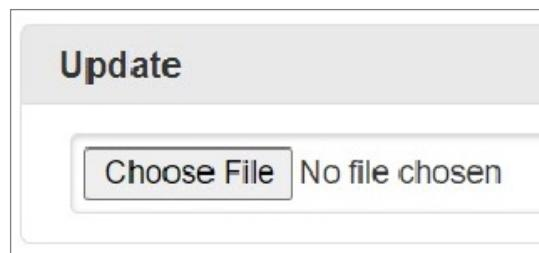

Fig 56. “Choose File” Button
1. Click the “Choose File” button (Fig 56) and select the CAB file that was supplied to you by Rinnai.